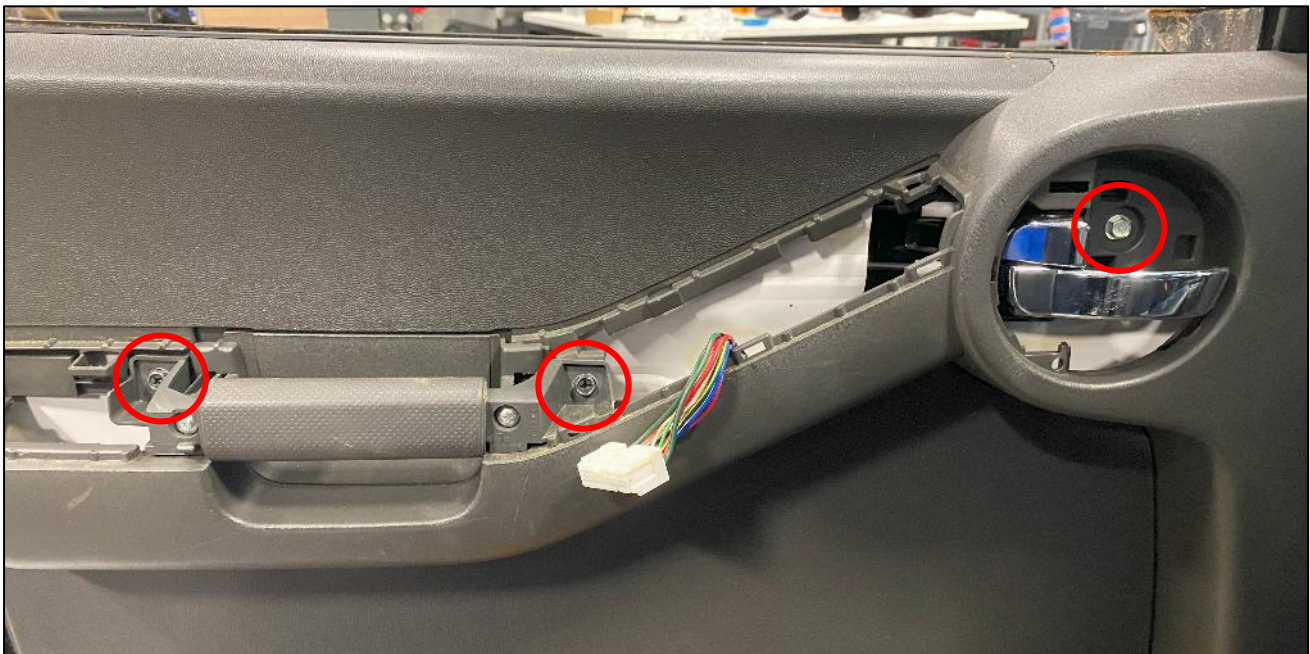

Figure 91
6. Remove the (3) three 10mm bolts securing the Door Panel to the Door. *Figure 91.*